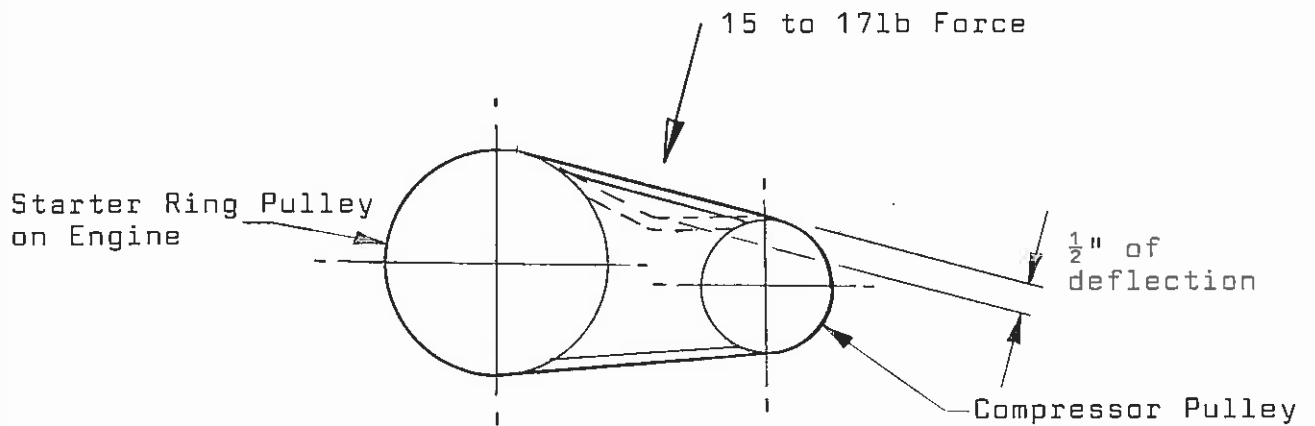

Fig 1
1. Prior to checking alignment of compressor, the belt tension and mounting bracket should be set up as follows. Set drive belt tension to give 1/2" deflection at mid span on top side of belt with a force of 15 to 17lb. Refer to paragraph 4 for tensioning instructions. Ref. Fig. 1.